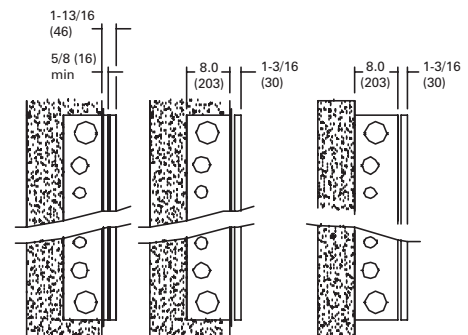

Fig. 2 Semi-flush
#### Semi-Flush Mounting - Ref. Fig. 2
5. Maintain a minimum of 1.5 (38) clearance from corner walls to side of wallbox.
**Flush and Semi-flush Mounting - Refer Fig. 2 and 2A**
1. The wall cutout for flush and semi-flush cabinet installation should be 1.0 (25) greater than overall cabinet dimensions (**min. depth 8.0 (203)**). Provide supports for each side of cabinet.
2. The front of the semi-flush mounted cabinets should be a minimum of 5/8 (16) from the finished wall surface.